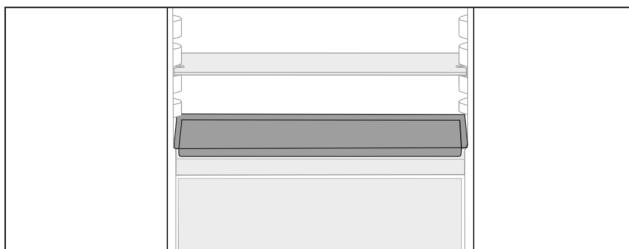

Fig. 149
There is space for a baking tray *Fig. 149* (7) above the drawers.